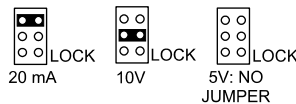

Figure 17. JP1 Input Signal Selection Array.
1. Make sure the jumper on JP1, is set for the desired input (see Figure 17, page32).